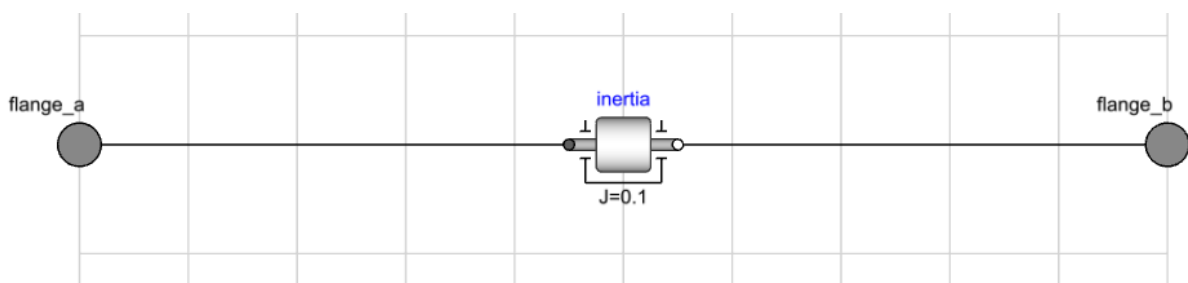

Figure 7 RigidDriveline model
- b. **RigidDriveline** with an *Inertia* and $inertia$ parameter $J=0.1$ propagated as shown in Figure 7.